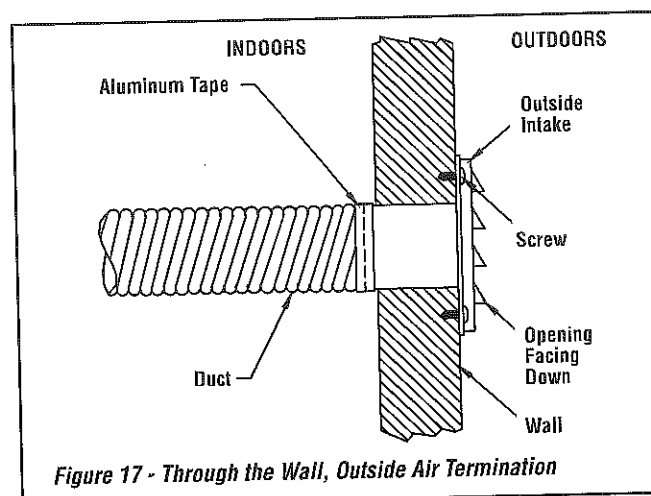

Figure 17 - Through the Wall, Outside Air Termination
- The air intake register must not be installed more than ten (10) feet (3050 mm) above the base of the stove.
- Make a 4-1/4" (110 mm) hole in the outside wall of the house at the chosen location. From outside, place the outside air register in the hole (open side down) and fasten the register to the wall, with screws as shown (see Figure 17).